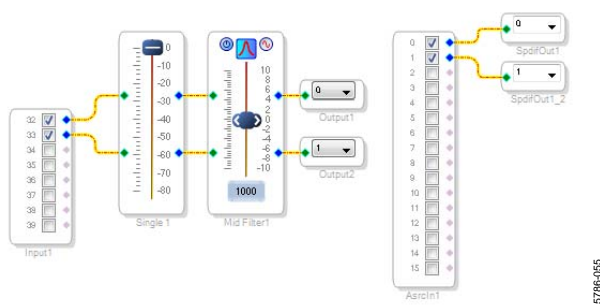

Figure 54. Completed Signal Flow
2. Connect the filter in series between the **Asrc Input** block and the **Spdif Output** blocks so that the filter can be applied to the signals passing through the DSP. The completed signal flow resembles Figure 54.